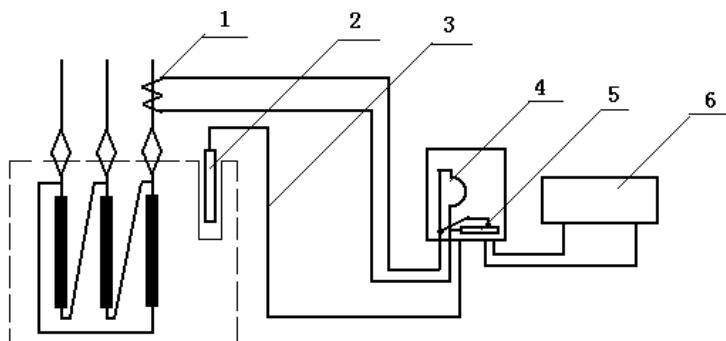

Figure 1
- Figure 1: Functional diagram of thermometer..... ( 3 )**
Temperature sensitive bulb of transformer windings thermometer is inserted in the oil hole on the top of oil tank (see Figure 1). When the load of transformer is zero, the count on transformer windings thermometer shows the temperature of oil. When load on transformer changes, the current (proportional to load) from current transformer collected in electrical heating element through converter. The heat produced by electrical heating element increases the displacement of elastic element. That's to say, the temperature indicated by the thermometer is a summation of the temperature of the transformer's top oil and the windings' temperature rise over that of the oil's.